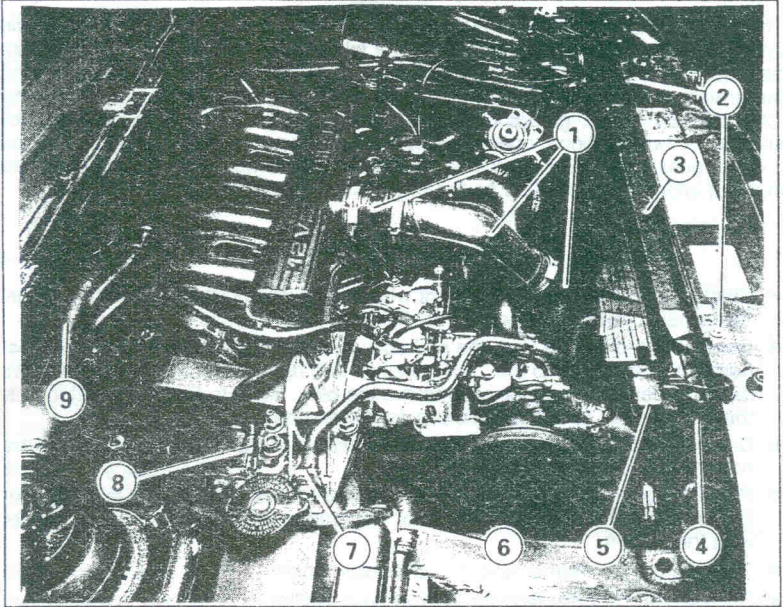

Fig. 1.1. — Details for the removal of the engine. The numbers are referred to in the text.
The next operations are carried out in the engine compartment, with reference to Fig. 1.1, again as seen standing in front of the vehicle:
- Remove the two hose clamps and remove the air ducts (1). A further air duct is located on the R.H. side.
- Remove the water hoses after opening the hose clamps. The hoses shown in Fig. 1.1 are identified with (6), (7) and (8). Also remove the upper radiator hose and one smaller hose below.
- Remove the two screws (2) in the illustration and remove the crossmember (3).
- Remove the radiator (5) and the air-to-air heat exchanger (4).
- Remove the two heater hoses. One hose is located at position (9) in the illustration.